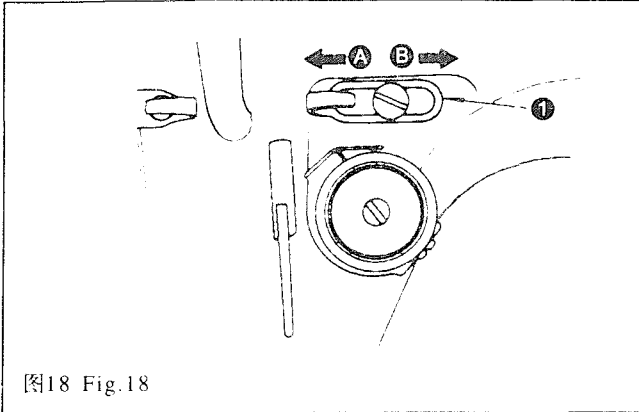

图18 Fig.18
14. 挑线杆挑线量的调节(图18)
14. ADJUSTING THE THREAD TAKE-UP STROKE (Fig.18)